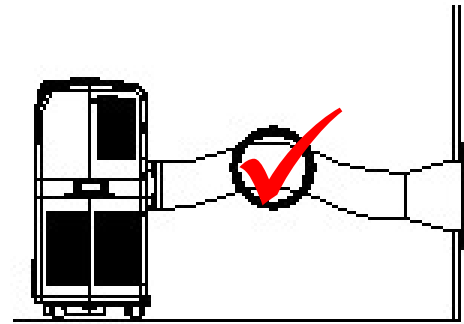
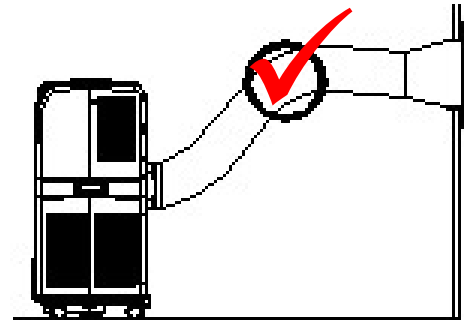

Fig. 3
Fig. 4
- Figure 3 and Figure 4 show correct mounting of the flexible exhaust hose.